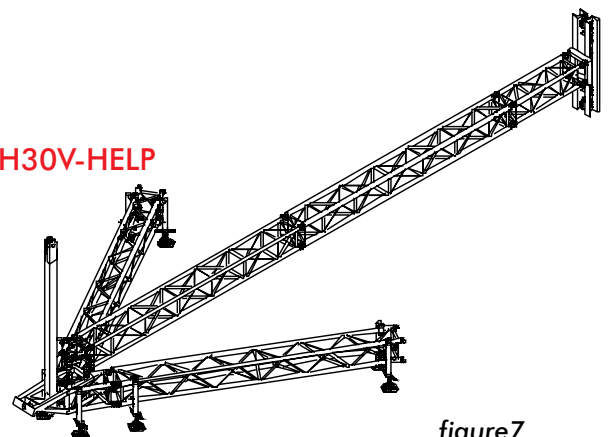

figure 7
**5** Connect the Rigging tower help (RT-H30V-HELP) to the corner section with the two clamps. See figure 7